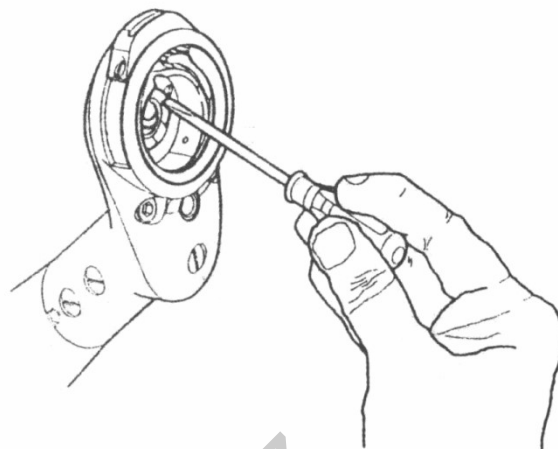

Fig. 21
2. If you feel the bobbin thread's tension is too tight after adjust (elastic sheet is too open), you can use screwdriver to make the bent line flat by pressure (as Fig.21)